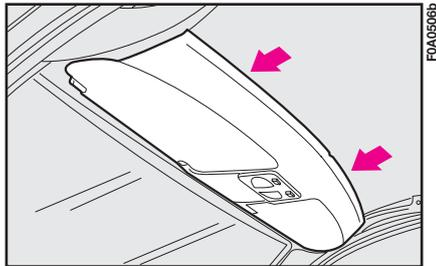

fig. 100
## ODDMENT SHELF fig. 100
**IMPORTANT** The shelf was designed for loads not exceeding 3 kg on each side. Consequently, do not arrange objects exceeding these weights. Do not use the points shown as grips **fig. 100**. Use the specific side handles.